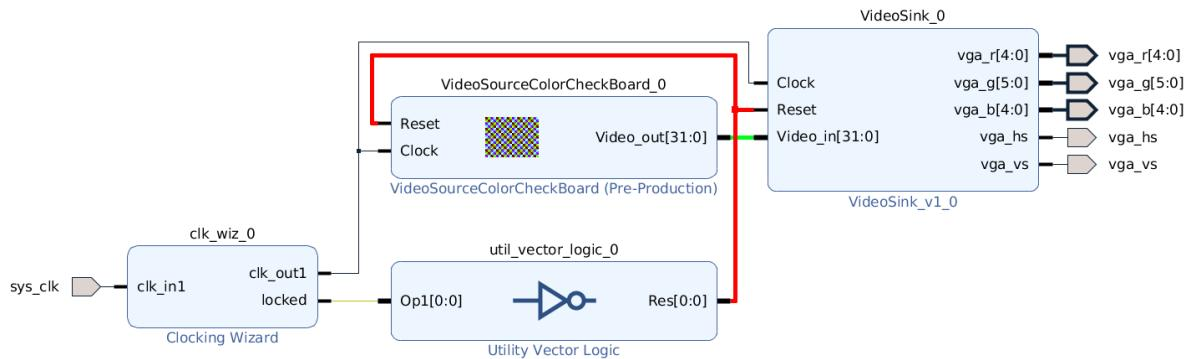

Figure 15: Vivado block design for the CCB test design
The Vivado tool needs IPBs for stitching them together into a system design from which a bit file can be derived. In this lab, a system design is represented by a *block design* in Vivado, e.g., as depicted in Figure 15. Vivado sources IPBs from Intellectual Property (IP) repositories. On
Next, you can examine the block design in Figures 15 and 26. As can be seen, the block design has inputs and outputs (marked with red boxes). Thus, information needs to be provided how these inputs and outputs should be connected to the Zybo board. Consulting the user guide `~/03_filter/documentation/ZYBO_RM_B_V6.pdf` for the Zybo board, we find following pertinent information duplicated in Figures 27 and 28.